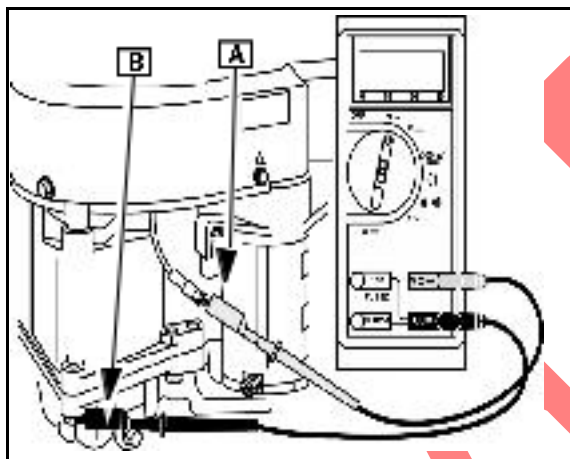

Fig. 16
2. Attach RED test lead clip to AC output terminal connector ([A] Fig. 16).
Attach BLACK test lead clip to engine ground ([B] Fig. 16).